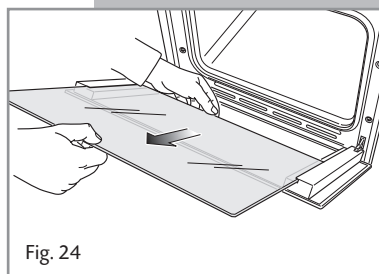

Fig. 24
- Gently pull out the inner pane of glass (Fig. 24).